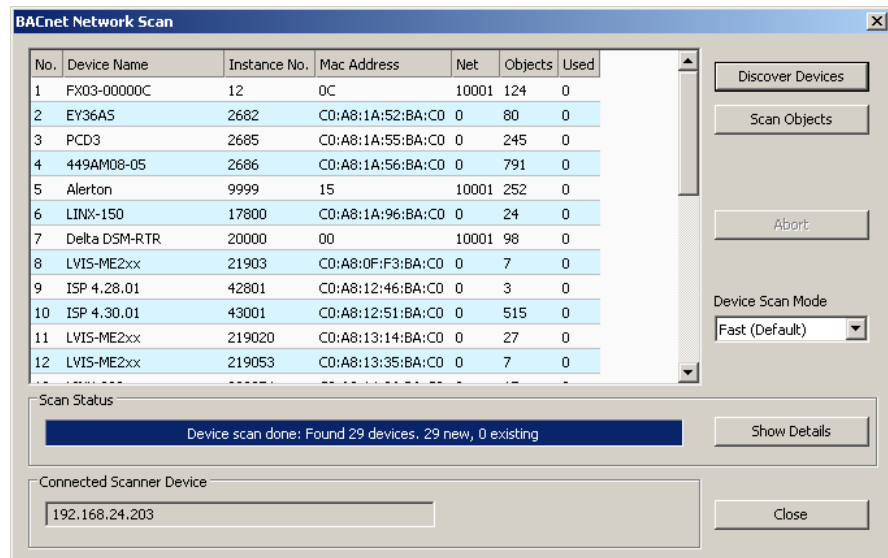

Figure 167: BACnet network scan dialog.
3. Right-click on that folder and select **Scan BACnet Network....** This opens the BACnet Network Scan dialog as shown in Figure 167.